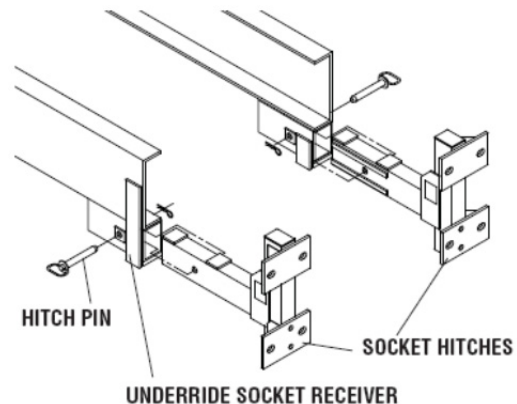

Figure 26
- E. Remove the Socket Hitches from the Underride Socket Receivers by removing both 1 x 6 1/4" hitch pins and retainer pins (See Figure 26). (If the alignment is off, making removal difficult, it may be necessary to adjust Jacks or temporarily disengage the TMA from the Socket Hitches. This can be done by removing the two 1 1/4 x 7" hitch pins and retainer pins as shown in Figure 26.) Loosen the hardware to ease interference and be sure to retighten.